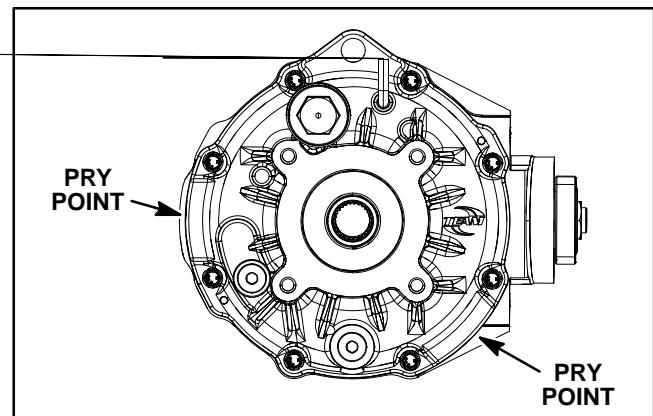
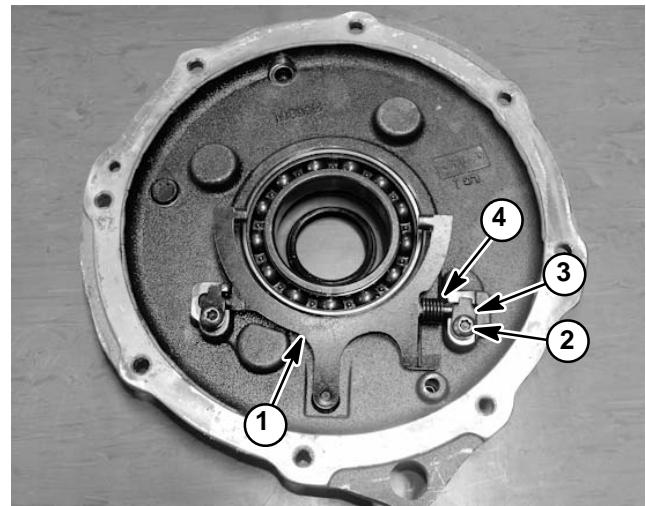
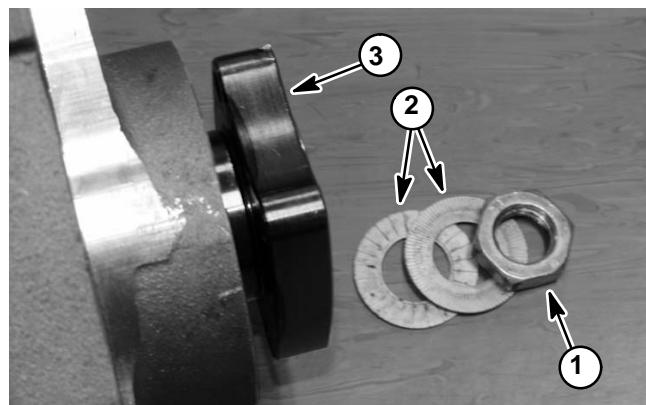

Figure 49
Figure 50
Figure 51
5. Using pry point areas as shown in Figure 49, carefully separate the output cover from the gear case and then remove the output cover. Locate and retrieve the shim (item 11) and engagement dog (item 2).
6. For assembly purposes, note location of dowel pins (item 9) in the cases. Remove pins to prevent them from falling out unexpectedly.
7. Remove differential assembly (items 20 to 29) from the gear case.
8. Remove eight (8) cap screws that secure spiral gear (item 21) to the differential housing. Remove gear from housing.
9. Remove dowel pin (item 25) that retains differential gear pin in the differential housing. Discard the removed pin.
10. Remove differential gear pin (item 26), pinion gears (item 27) and output gear (item 23) from the differential housing. Also, remove output gear (item 22) from spiral gear.
12. If necessary, remove shift fork from cover (Fig. 50):
13. If necessary, remove bearings (item 12 and 13) from the output cover and/or differential housing. Discard bearings after removal.
14. If necessary, remove expansion plugs (item 24) from output gears.
15. If necessary, remove coupler (item 30) and seal (item 37) from pinion gear:
A. Use a suitable wrench on coupler to prevent the coupler and pinion gear from rotating. Remove hex nut (item 7) that secures coupler to pinion gear.
B. Remove lock washer set (item 8) from pinion gear (Shown in Fig. 51). For assembly purposes, note that the wider serrations on the washer halves are orientated against each other.
E. Remove O-ring (item 36) from pinion gear. Discard removed O-ring.
2. If bearing (item 13) was removed from output cover, install new bearing into output cover bore fully to shoulder of bore. Press only on outer race of bearing during installation.
3. If bearing (item 29) was removed from differential housing, install new bearing onto housing fully to shoulder of housing. Press only on inner race of bearing during installation.
4. Make sure that expansion plugs (item 24) are secure in output gears (items 22 and 23). If new expansion plugs are being installed into gears, thoroughly clean inside of gears and apply Loctite #680 retaining compound to OD of new plug before installation. Press plugs fully to internal shoulder of output gears.
5. If removed, install seal (item 37) and coupler (item 30) onto pinion gear:
- A. Apply grease to O-ring (item 36) and install onto pinion.
- C. Install lock washer set (item 8) onto pinion gear (Shown in Fig. 51). Make sure that the wider serrations on the washer halves are orientated against each other.
- E. Use a suitable wrench on coupler to prevent the coupler and pinion gear from rotating. Secure coupler to pinion gear with hex nut (item 7). Torque nut from **195 to 215 ft-lb (265 to 291 N-m)**.
6. If the shift fork (item 32) was removed from output cover, install shift fork (shown in Fig. 50):
- IMPORTANT: The Torx screws (item 4) used to secure the shift fork to the output cover have a patch lock on the threads to prevent loosening of the screws. Either replace screws or apply medium strength thread locker to threads of original screws before assembly.**
7. Install all components to differential assembly (items 20 to 29):
- B. Slide output gear (item 23) into differential housing and then position both pinion (item 27) gears into housing making sure that pinion gears mesh properly with output gear.
- C. Slide differential gear pin (item 26) into differential housing and pinion gears. Make sure that dowel pin holes in gear pin and differential housing align.
- D. Secure differential gear pin into the differential housing with new dowel pin (item 25).